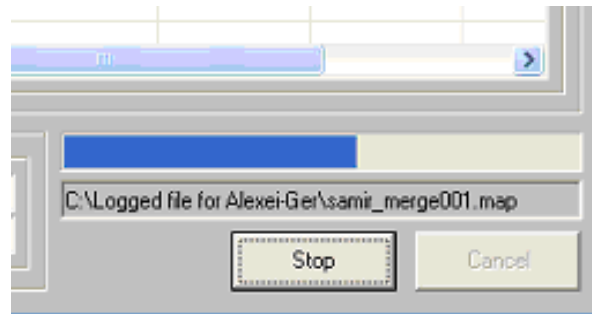

Figure 44: Merging process
3. Once the scanning process is complete, the merge process starts, the name of the output file appears below the progress bar, and the progress bar shows the progress of the merge process (See Figure 44).